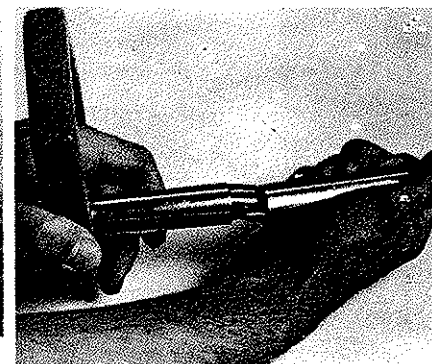

FIGURE 2
2. Push the upper tube into the lower tube. Figure 2.